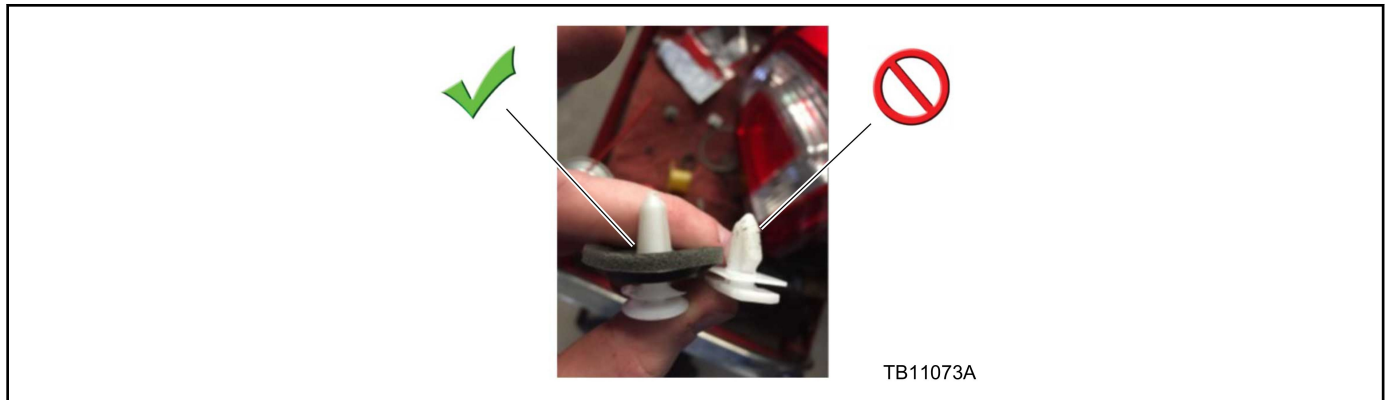

Figure 5 - Article 17-0044
- (1) Correct spoiler to liftgate fastener (left) incorrect fastener (right) (Figure 5)